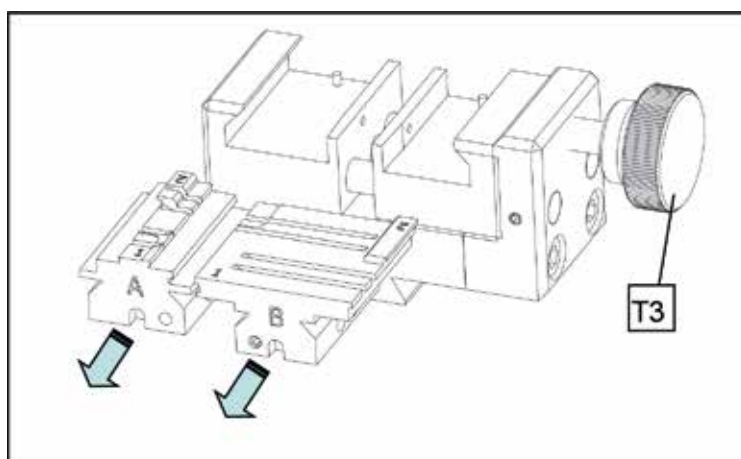

FIG. 20
- 2) Push the clamp(s) with your fingers from its rear part removing it towards the operator. (Fig. 20)